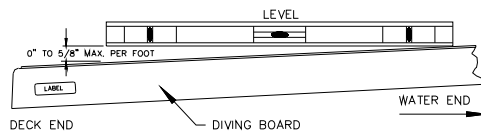

FIG.4
10. The top surface of the diving board from the deck end to the tip end shall be level or have an upward slope of 5/8" per foot (16 mm : 305mm) maximum. Elevation difference shall not exceed 6 inches (152mm) from the deck end to the tip of the board. There shall be no downward slope towards the water. The slope shall be measured using a level as shown in Fig. 4.